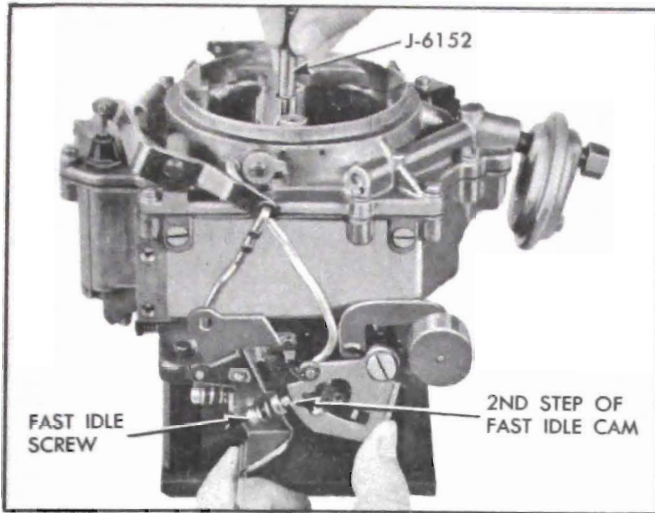

Figure 3-81—Checking Fast Idle Cam Adjustment
1. Close throttle so that fast idle screw contacts second step of fast idle cam with side of screw against high step of cam, then check clearance between choke valve and air horn dividing wall using (.140") end of Gauge J-6152. See figure 3-81.